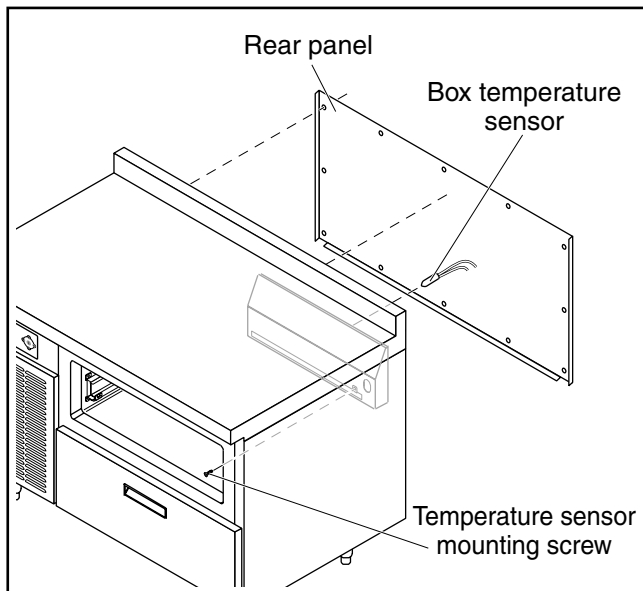

Figure 14. Box Temperature Sensor
4. Reach inside the box and remove the temperature sensor mounting screw (Figure 14).